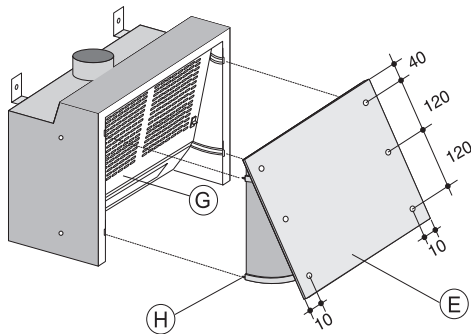

Fig. 3
- Take off the door (E) by removing the grill (G) and pulling at the same time the special spring locking knobs (H) (fig. 3).
- Fix the door on the front panel through the screws at the level indicated in (fig. 3).
- Replace the door by inserting it in the upper and lower slides until the spring locking knobs (H) are released.